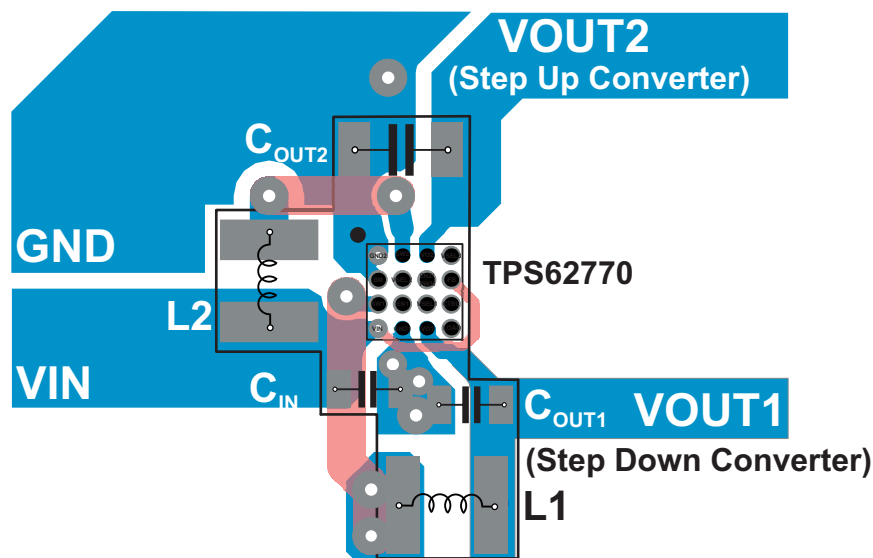
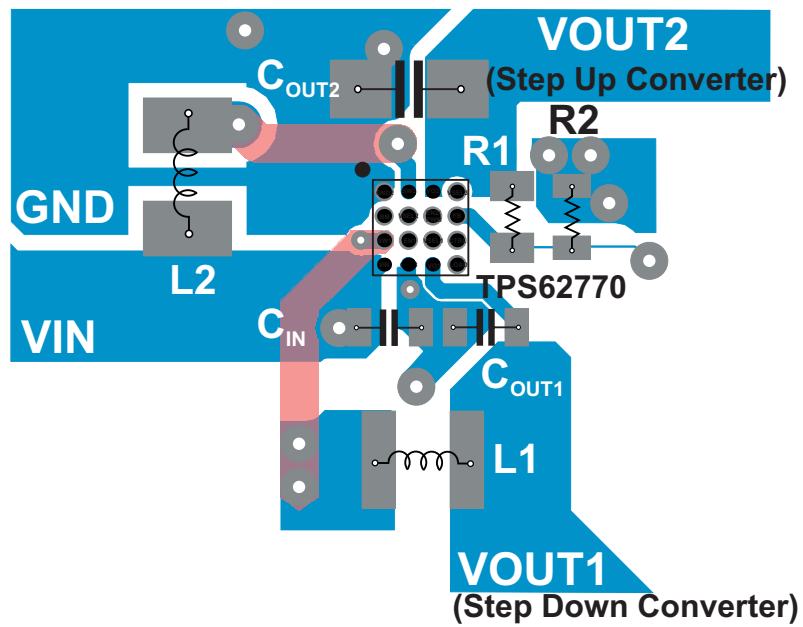

图 44. Recommended PCB Layout with 12 V Fixed VOUT2
图 45. Recommended PCB Layout with Adjustable VOUT2
- See 图 44 and 图 45 for the recommended PCB layout.